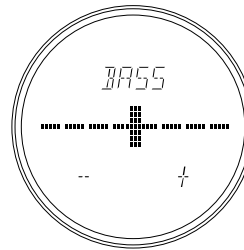

Fig.1
1. Press the **AMP** button **Ⓢ** once or twice to set the mode of **JOG** control **Ⓢ** to **TONE** control mode. "**BASS**" or "**TREBLE**" is displayed. (Fig.1)